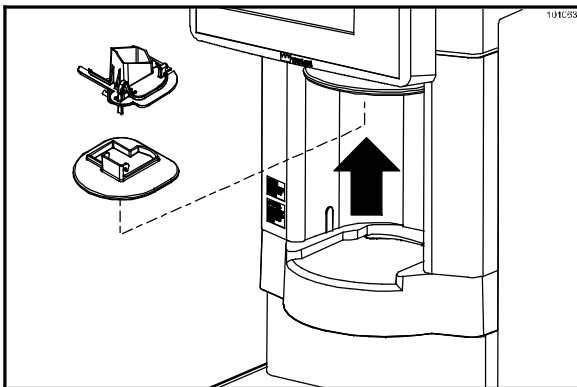

Figure 113
63. Install the ice chute and the splash guard. (See Figure 113.)